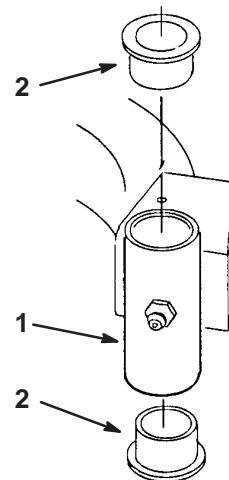

Figure 29
4. Insert a pin punch into the mounting tube and carefully drive out the bushings (Fig. 29). Clean the inside of the mounting tube.